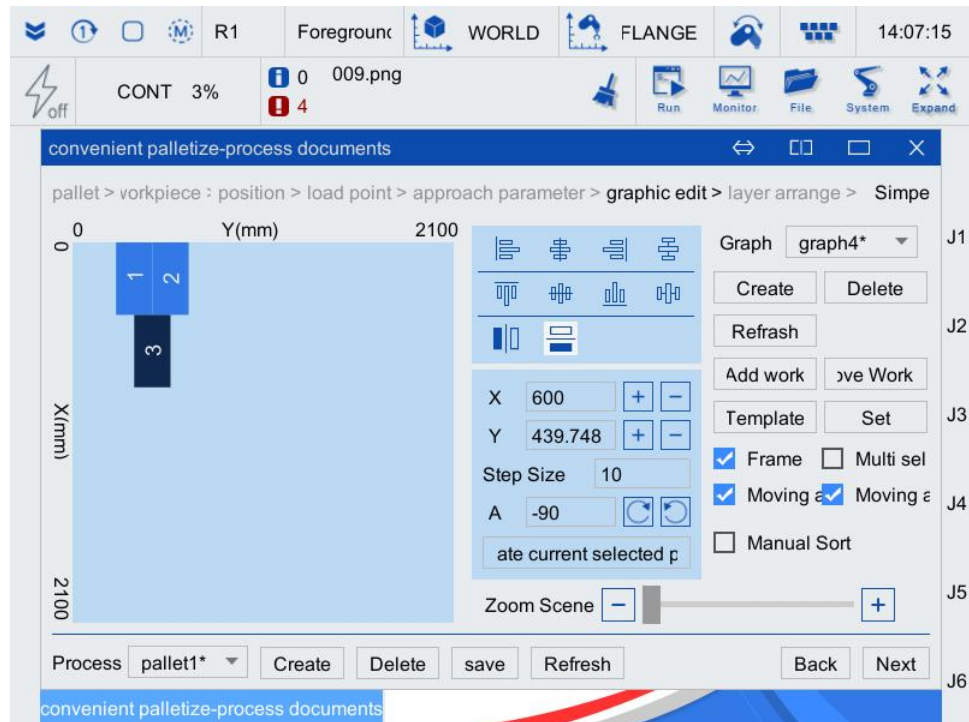

Figure 3-39 Interface for adding workpiece 3 in seam pressing mode
Step17. Drag the workpieces with the stylus to make the arrangement of workpieces as shown in Figure 3-39.